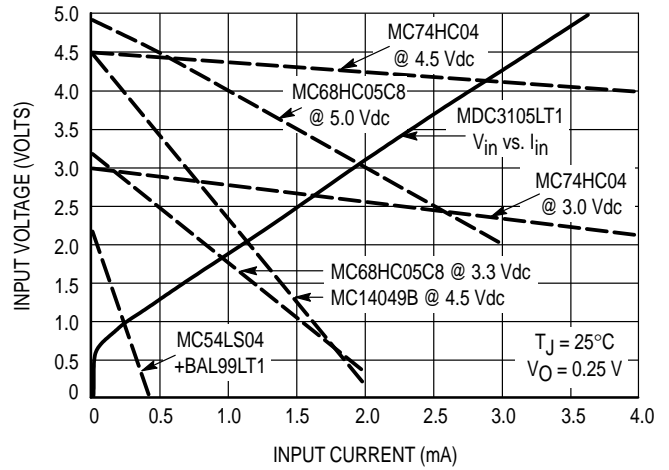

Figure 3. Input V-I Requirement Compared to Possible Source Logic Outputs
6. For levels of input current above $100 \mu A$, enter Figure 3 using that max input current and determine the input voltage required to drive the MDC3105 from the solid V_{IN} versus I_{IN} line. Select a suitable drive source family from those whose dotted lines cross the solid input characteristic line to the right of the I_{IN} , V_{IN} point.